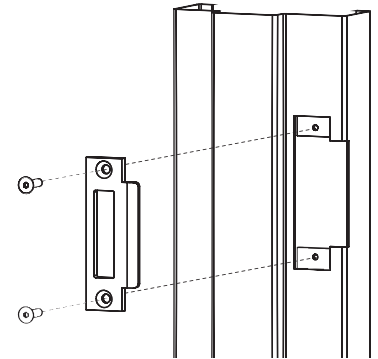

Figure 3
Install two (2) ¼-20 socket cap flat head screws. (Figure 3)